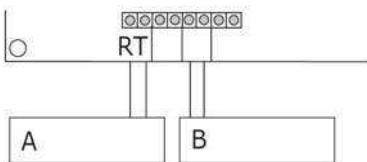

Figure 9.2 Room thermostat and outside sensor connection
Connect the room thermostat (A) and, if present, the outside sensor (B) to the terminal strip (see figures 9.2 and 9.3). Outdoor sensor is optional, does NOT have to be installed for the Eco-King to function.